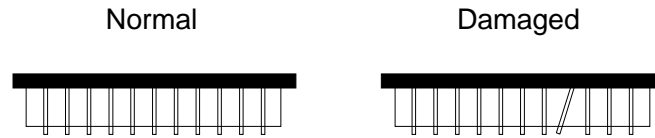

Figure 130. Connector Pins
- Make sure the connector pins are not bent out of place. They should appear parallel to one another (Figure 130).